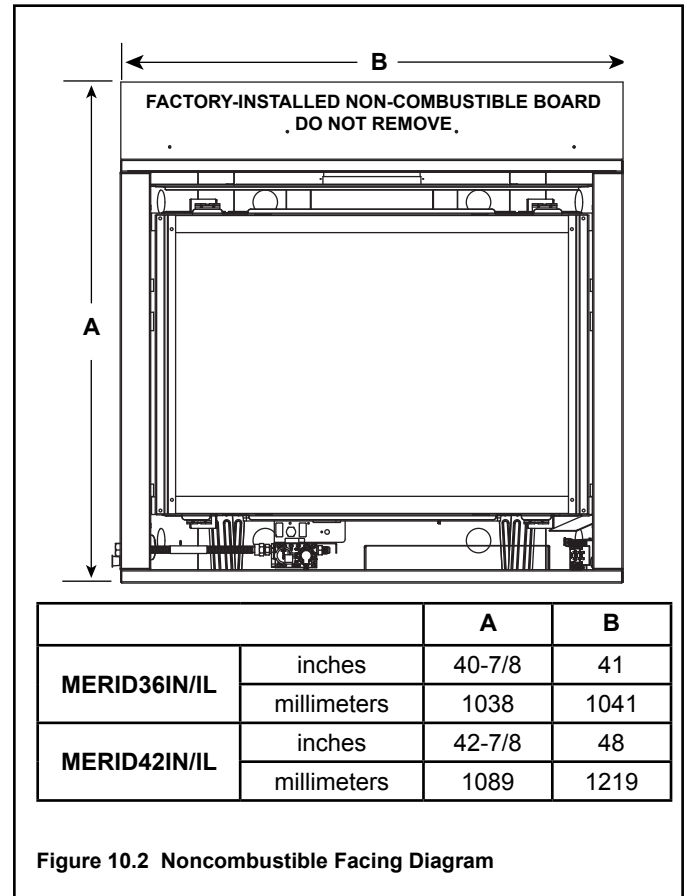

Figure 10.2 Noncombustible Facing Diagram
- Seal joints between the finished wall and appliance top and sides using a 300 °F minimum sealant. Refer to Figure 10.1 and Figure 10.2.